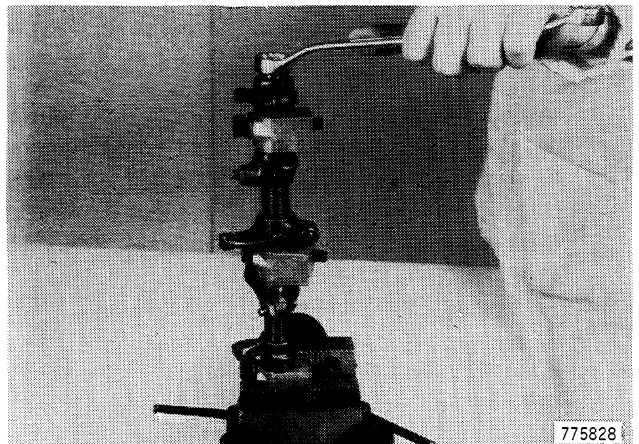

Figure 84
1. Put rocker arm in vise and remove plug from front end of shaft, Figure 84.